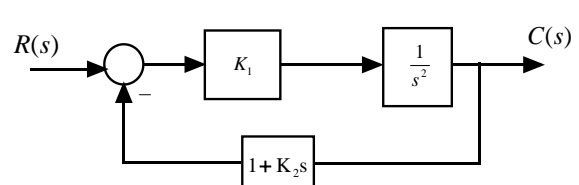

Fig.Q2B
**2B.** For a unit step input closed loop control system shown in Fig Q2B, find the values of  $K_1$  and  $K_2$  so that the peak overshoot is 25 % and peak time of 4 sec.